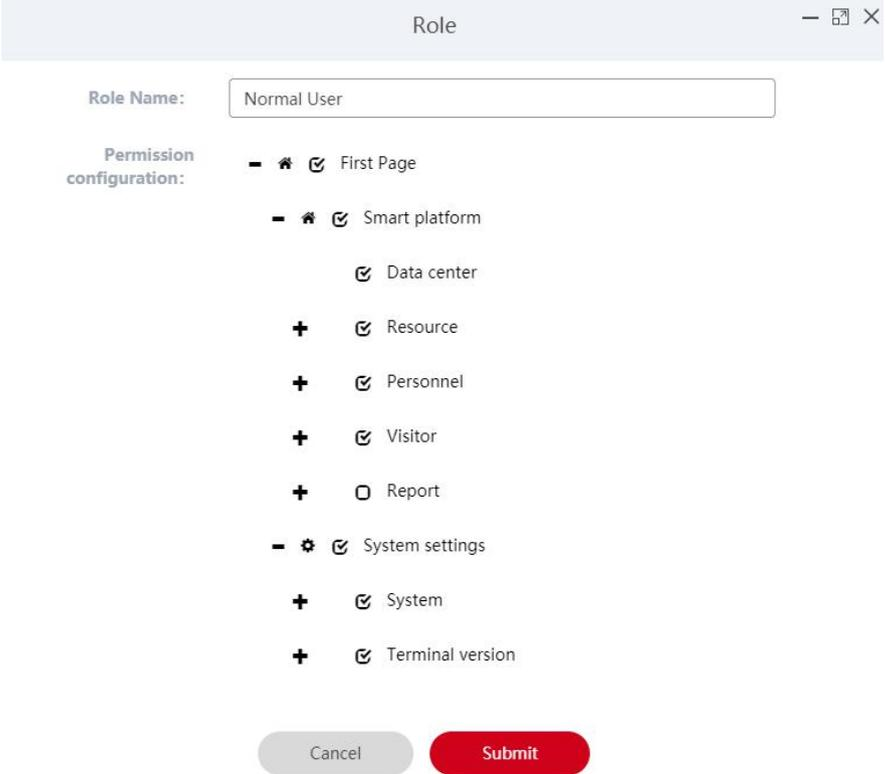

Figure 5-76
Step 2: Click "✎" of the role you want to edit, modify role name and permission configuration, click "Submit" to complete the user editing, as shown in Figure 5-76 below.